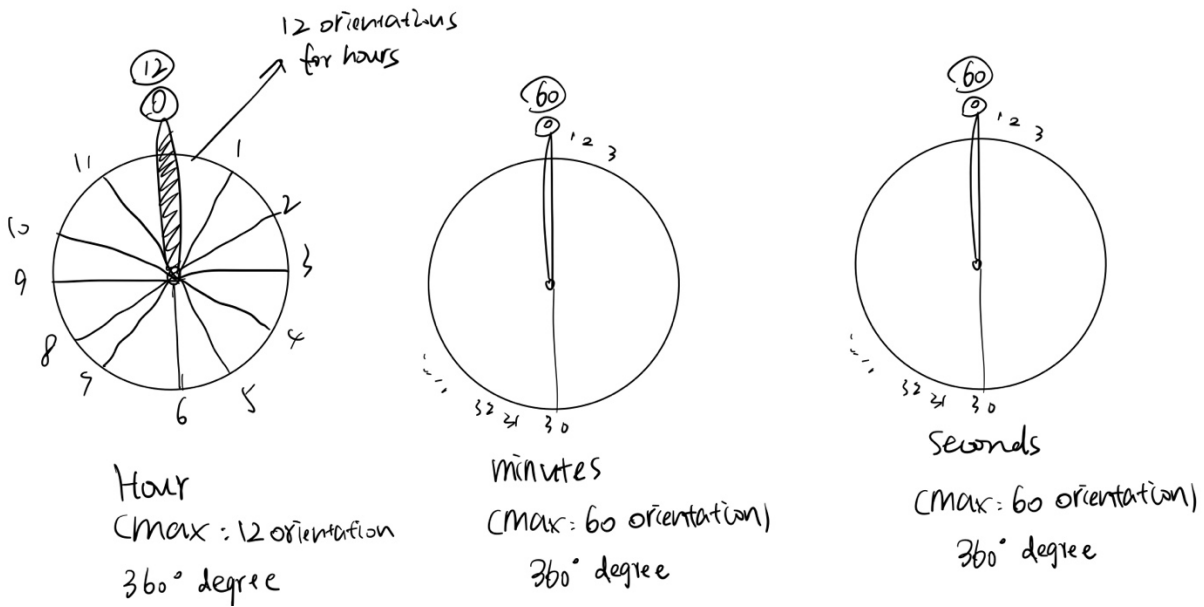

Figure 2. Instruction of servos working to indicate hours, minutes, and seconds.
2. 3 buttons rolling encoder to control time setting, display on LCD and meanwhile servos are rotating to correct places (See figure 2 for instruction of servos).